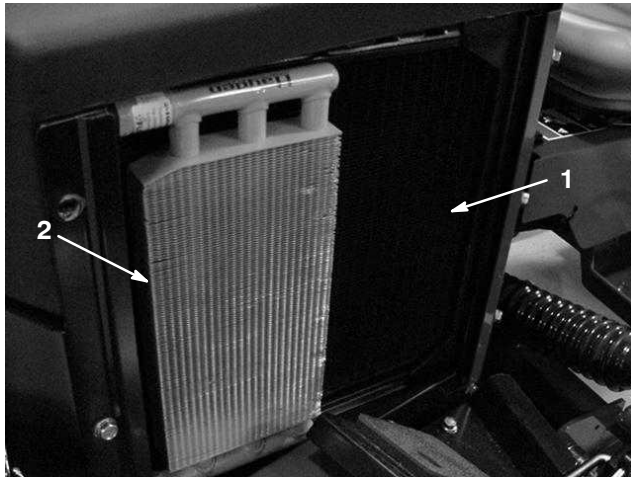

Figure 44
3. Thoroughly clean the oil cooler (Fig. 44) and remove any other debris that may have collected around the components.